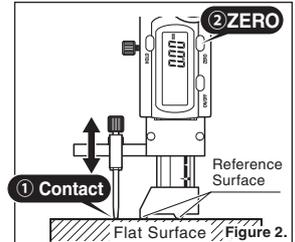

Figure 2.
- ③ Place the gauge on a flat reference surface, and slide the tip down for good contact. Press the [Zero] Button. (Figure 2.)